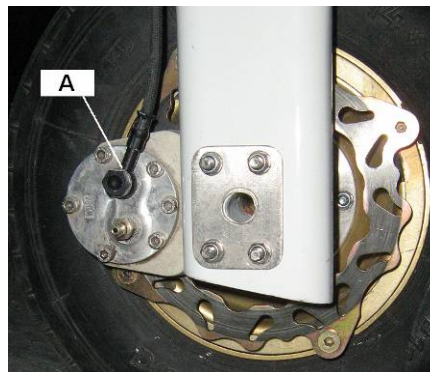

Fig. 5
2. Unscrew the connector A 1 to 2 turns on the right wheel using a 7x8 wrench (Fig. 5).
4. Tighten the connector A (Fig. 5) using a 7x8 wrench up to torque 80 lb-in / 9 Nm). Disconnect the syringe.
6. Screw in the connector A (Fig. 5) by a 7x8 wrench.
8. Unscrew the connector A 1 to 2 turns by a 7x8 wrench (Fig. 5).
11. Screw in the connector A by a 7x8 wrench (Fig. 5).
15. Unscrew the connector A (Fig. 5) 1 to 2 turns by a 7x8 wrench.
18. Tighten the connector A (Fig. 5) up to torque 80 lb-in / 9 Nm by a 7x8 wrench. Disconnect the syringe.
1. Using 5 hex-nut wrench, unscrew the bolts C9997205I (Pin for brake disk), Fig. 5, and release the brake disk that it does not get between the pads.